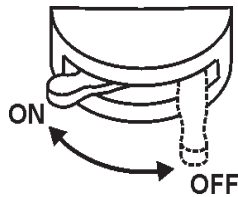

Figure 45. Battery ON/OFF Switch
5. Set the **battery ON/OFF switch** (Figure 45) to the “ON” position.